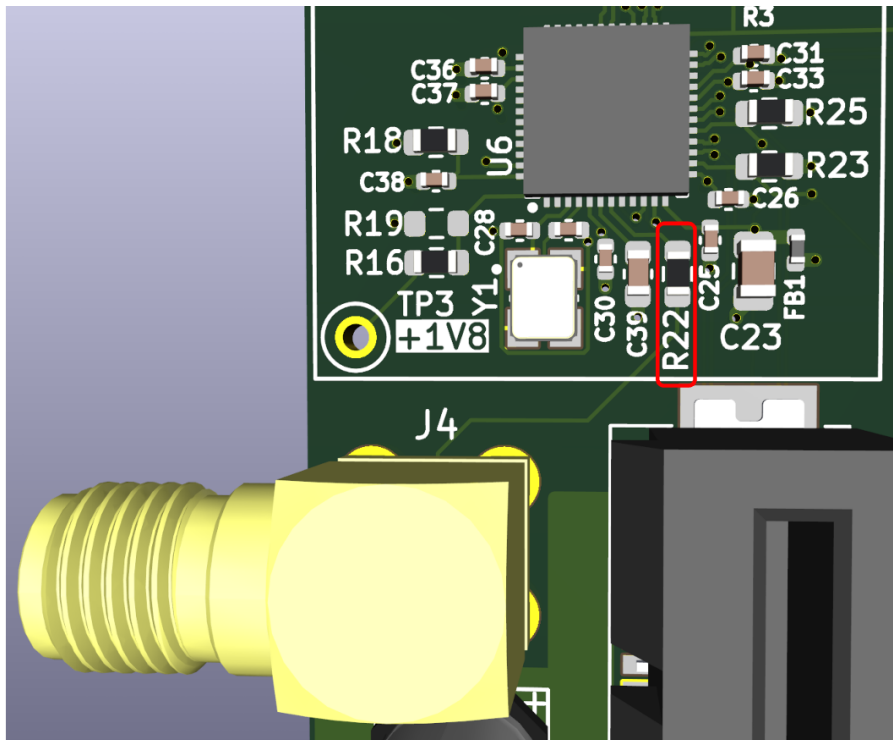

Figure 3: Location of Resistor R22 (25MHz Check)
2. **Step 3.2:** Locate ****Resistor R22**** (Series resistor for the SMA connector J4). See **Figure 3**.